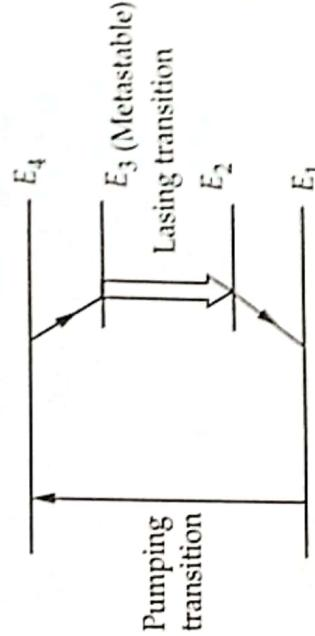

Fig. 6.9.2
b) Four level laser systems : Pumping takes the atoms from E_1 to E_4 transition where there is a spontaneous transition to E_3 . The lasing transition is from E_3 to E_2 which is then followed by another spontaneous transition to E_1 as shown in Fig. 6.9.2. Nd-YAG laser is an example of the four level laser system.